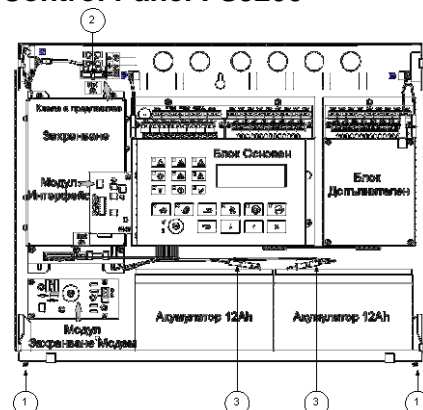

Fig.9
3.1. Unscrew the two screws from the cover of the fire control panel pos.1 (Fig.9).
3.3. Remove the fuse Fu1 from the socket pos.2 (Fig.9).
3.4. Disconnect the cables from the terminals of the back up batteries pos.3 (Fig.9).
3.9. Put back Fuse Fu1 to the socket pos.2 (Fig.9).
- 3.10.** Connect the cables to the terminals of the back up batteries pos.3 (Fig.9).
- 3.12.** Screw in the screws of the fire control panel cover pos.1 (Fig.9).